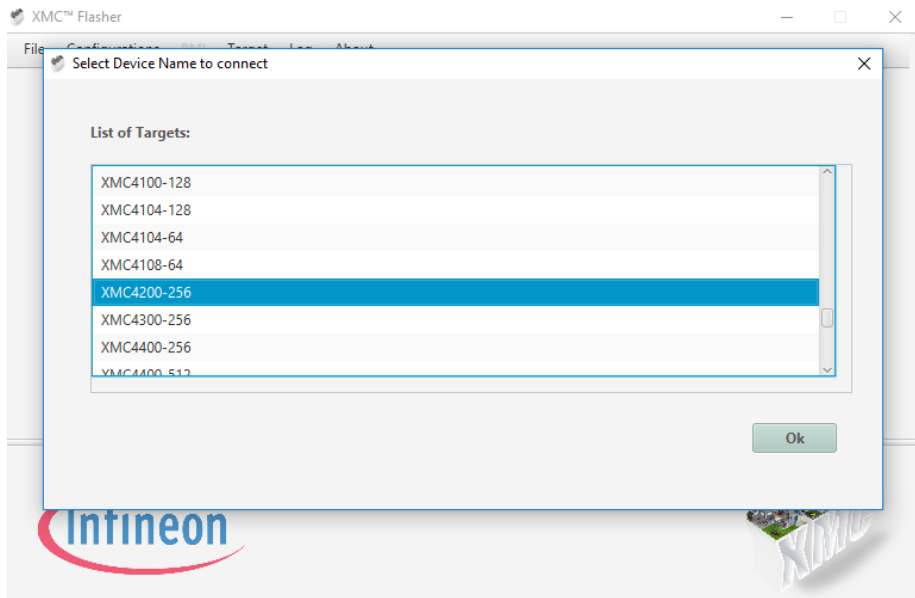
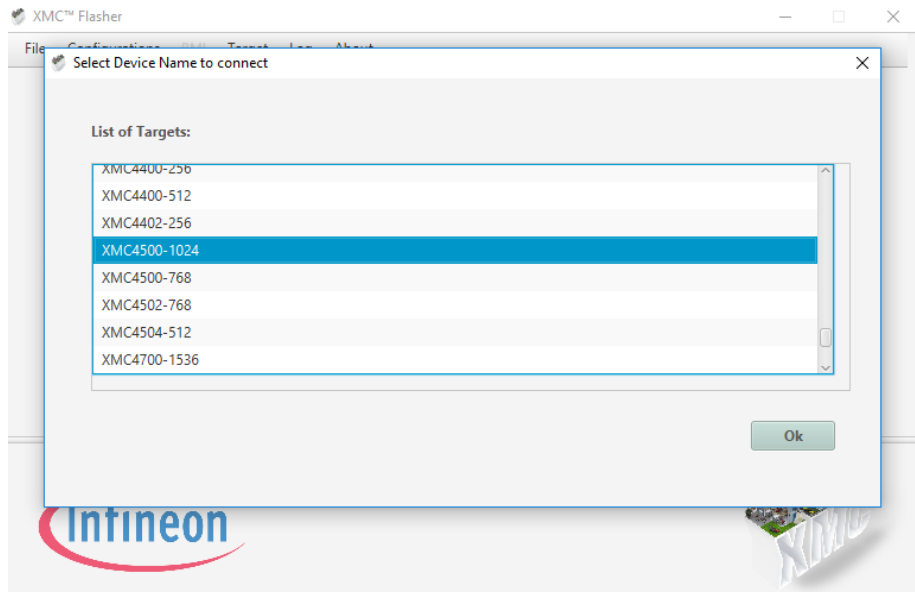

Figure 8. XMCFlasher Device Selection Window – OPS241/OPS242
Figure 9. XMCFlasher Device Selection - OPS243
Step 6. With the OPS241/OPS242/OPS243 connected to the PC, press the Connect button on XMCFlasher. A pop-up window like that in Figure 8 will appear. For the OPS241/OPS242, scroll down and select the XMC4200-256 and press Ok. For the OPS243, scroll down and select the XMC4500-1024 as shown in Figure 9 and press Ok.